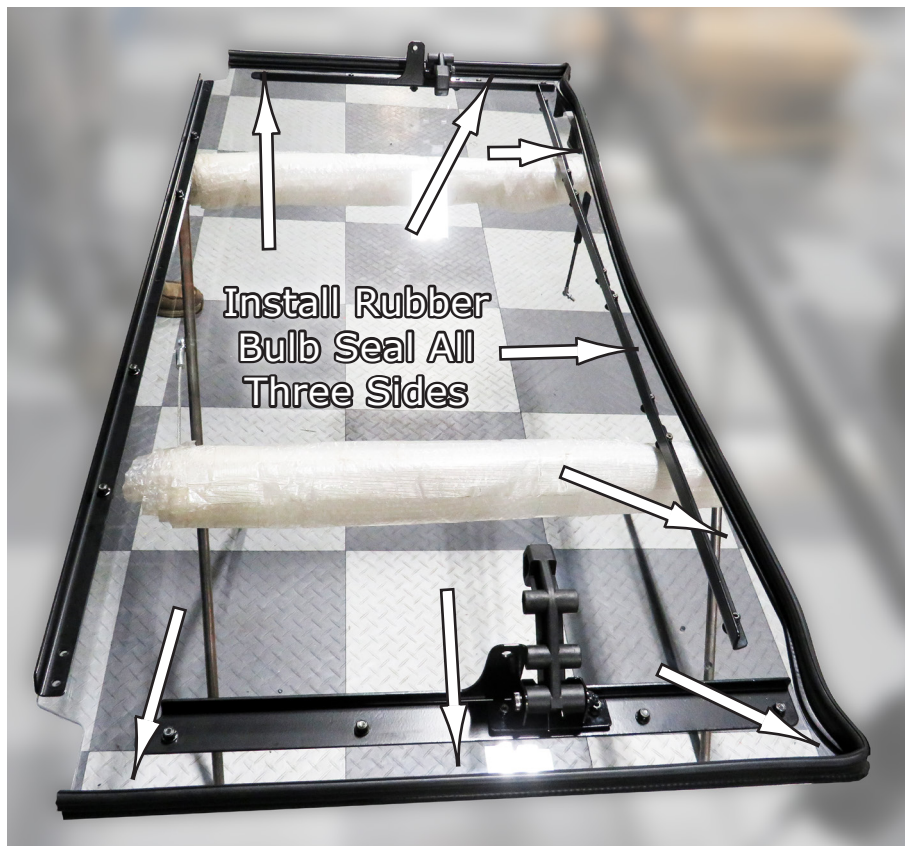

Fig.3
3. After the bracket is installed, now you can install the **Rubber Bulb Seal** all along the 3 sides of the windshield and cut to fit if needed. See **Fig.3**.